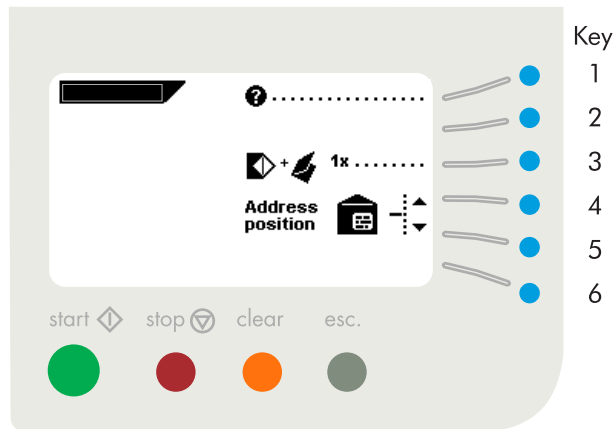

Fig. 26
To try again, start again from the "main menu (1)". After a testset run the display shows the "AutoSet™" menu (fig. 26) again, extended with the possibility of adjusting the address position. If needed adjust the address position as follows:
- press key 4 to set the address higher. Each key stroke brings the address up 1 mm (0.04 inch) (maximum 10 mm (0.4 inch) higher).
- press key 5 to set the address lower. Each key stroke brings the address down 1 mm (0.04 inch) (maximum 10 mm (0.4 inch) lower).
Press key 1 (fig. 26) in the "AutoSet™" menu for the "AutoSet help" advice. This screen gives suggestions for the AutoSet™ usage. Press key 6 to return to the AutoSet™ menu.